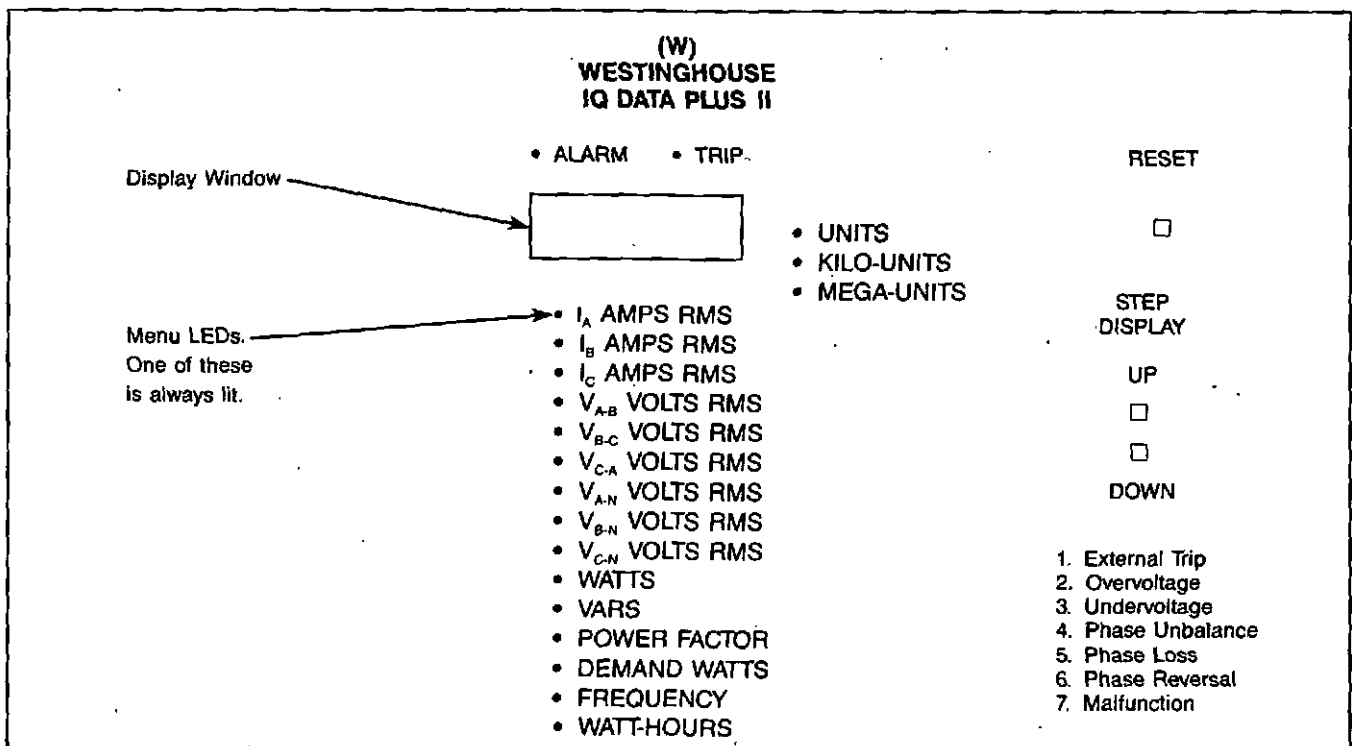

Figure 3.1 Operator Panel
- Monitor the actual metered values on the Display Window. (See Figure 3.1)
**3.1 Membrane Pushbuttons** — The Operator Panel supports 3 membrane pushbuttons. (See Figure 3.1.) The membrane pushbuttons perform the following functions:
**3.2.2 Units LEDs: Auto range units for monitoring —** Units, kilo, mega. Refer to Figure 3.1.